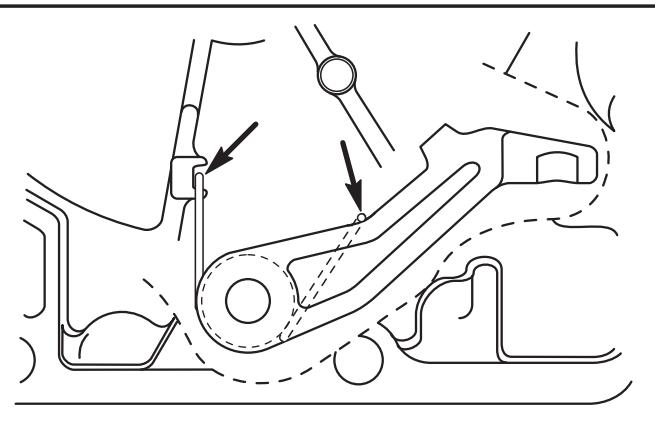

Figure 70
6. Hook the other end of the parking pawl spring on the boss in housing, as shown in Figure 70.